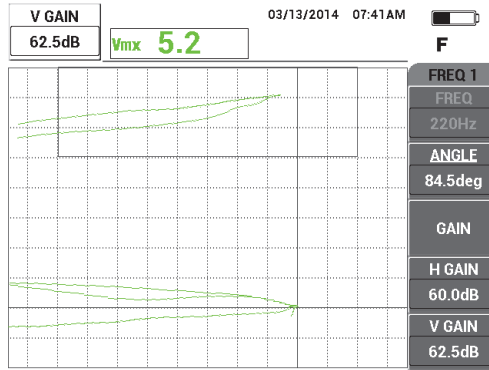

Figure 5-26 Adjusting the vertical gain
- Press the GAIN key (**dB**) three times to access the **V GAIN** parameter, and then increase the vertical gain until the signal reaches the last vertical division on the screen, which is equivalent to 90 % screen height (see Figure 5-26 on page 145).